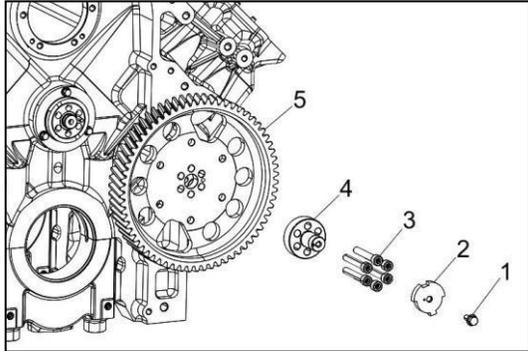

Figure 93
- Loosen the tightening bolt and remove the signal panel (Figure 93, 2).
- Remove the bolts (Figure 93, 3) from the connecting shaft (Figure 93, 4) of signal panel. Remove the connecting shaft, camshaft gear (Figure 93, 5).